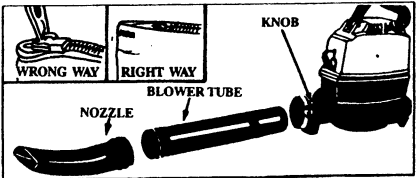

Figure 4
- Close the zipper on the bag. Make sure the zipper is closed completely and is tucked toward the inside of the bag. Figure 4 (inset).
- Loosen the Knob and remove the Blower Tube and Nozzle from the engine. Figure 4.